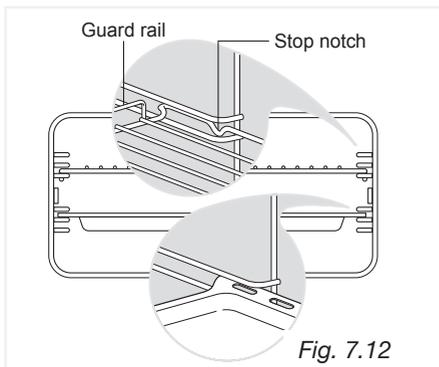

Fig. 7.12
- Slide the rack into the runners (Figs. 7.12 - 7.13).